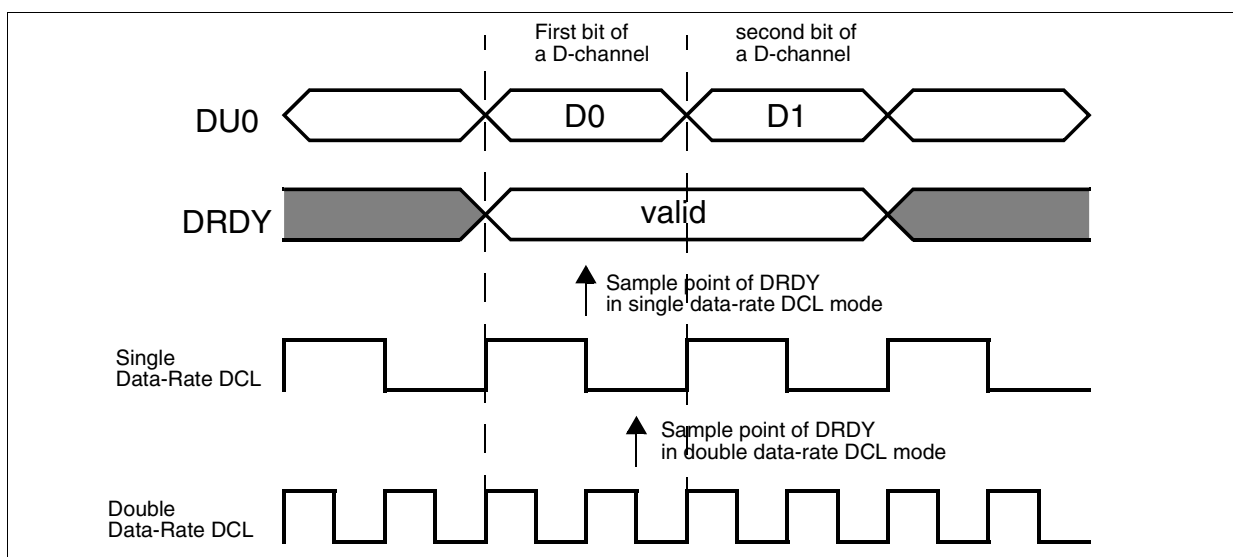

Figure 40 DRDY Sampling Timing
- Sampling with the first DCL falling edge (in single data-rate DCL mode) or with the second falling DCL edge (in double data-rate DCL mode), refer to **Figure 40**.